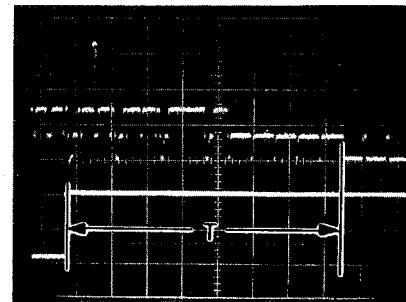

Fig. 25
- Adjust R246 in the servo section PD01 such that 6.5 ± 1 lines prior to the frame sync. pulse are visible. (Fig. 25)